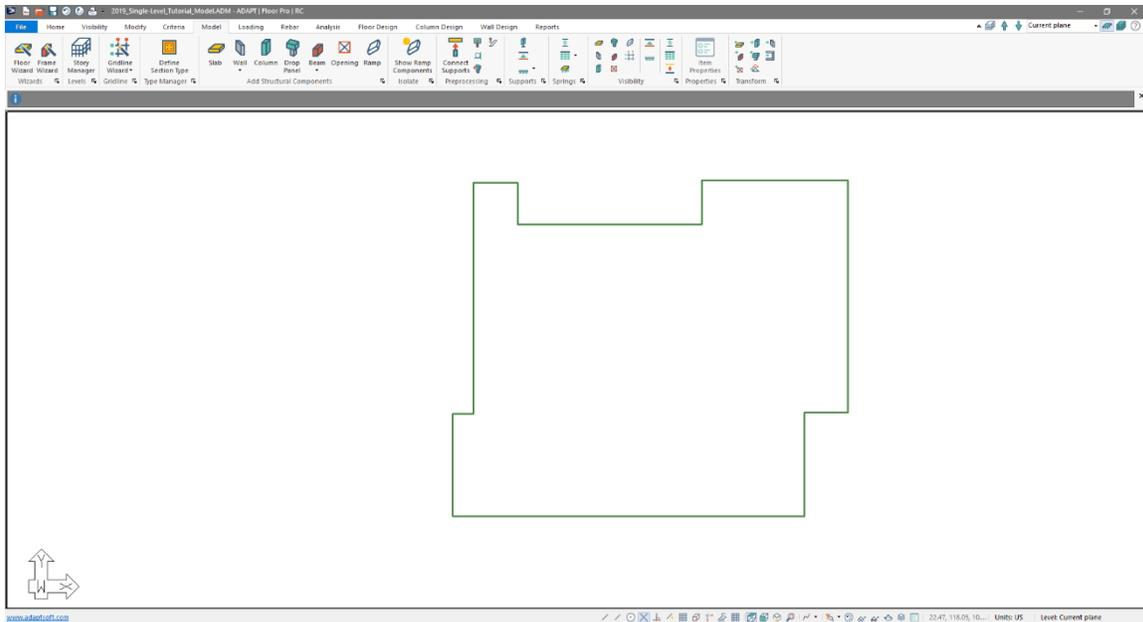

Figure 2-26
- Go to *Model* → *Transform* and click on the *Transform Slab*  icon. This will automatically create the slab region builder object based on the outline of the polyline from the DWG as shown in **FIGURE 2-26**.